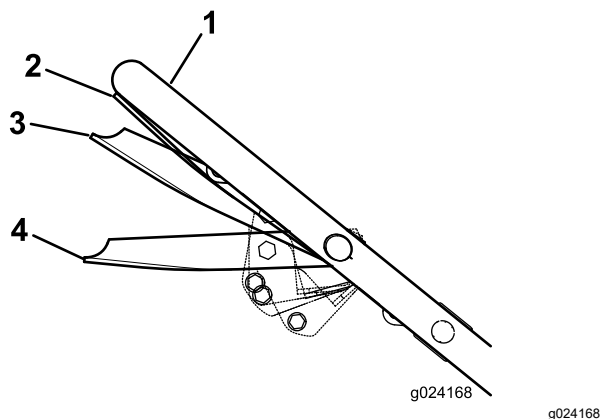

Figure 20
3. Squeeze the blade-control bar against the handle to the Run/Drive position (Figure 20).
Important: Shifting speeds while squeezing the blade-control bar against the handle in the Run/Drive position could damage the transmission. Move the blade-control bar to the Run/Shift position (Figure 20) whenever you change the ground speed.